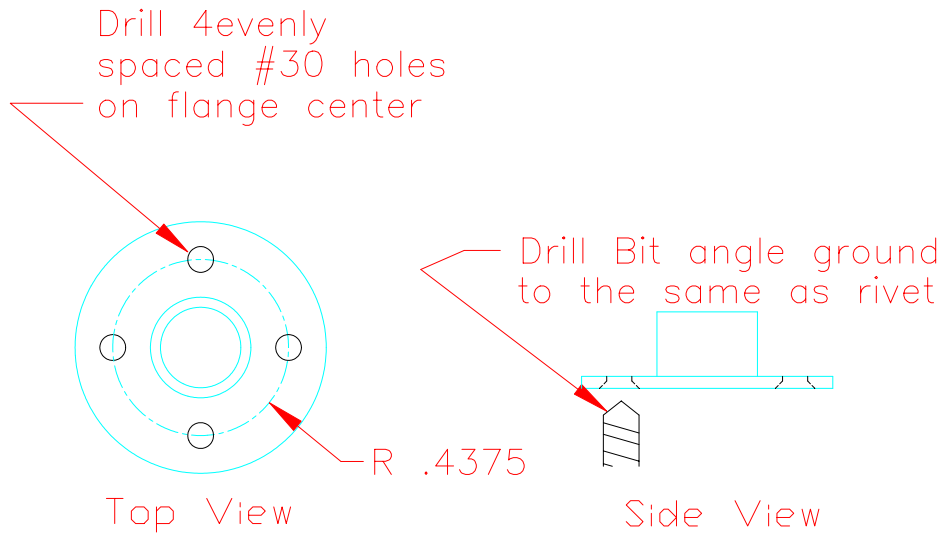

Figure 7.1.5
- 7) Drill and countersink three Brass Bushings (AIL-27) as shown in Figure 7.1.5. **NOTE:** A 1/2" drill bit ground to the proper angle works well for countersinking the holes.